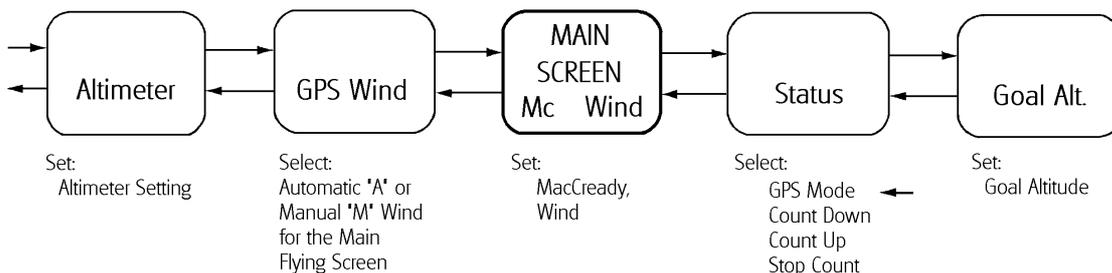

FIGURE 3
21. **SCREEN CHANGES WHEN GPS MODE IS SELECTED.** Fig 3 shows how the Screens change when **GPS Mode** is selected from the **Status Screen**. Functions to the left of the **Wind Screen** are unaffected. The **Wind Screen** now gives the choice of Automatic "A" or Manual "M" wind for the **Main Screen**, selectable by means of the UP and DOWN keys. For an accurate wind measurement you must fly at a constant airspeed and track for at least 5 seconds. Also the altimeter must be referenced to Sea Level (QNH) since True Airspeed differs from Indicated Airspeed by 4% for each 1000ft increase of altitude. If the altimeter is set to QFE at a 1000ft altitude airfield, at 70 knots a false 3 knot headwind would be displayed.